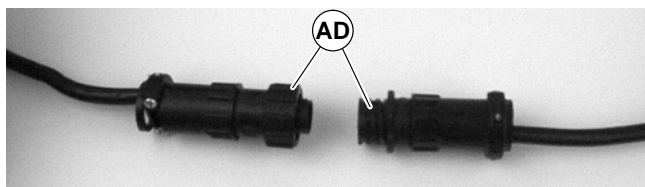

Figure 18
3. For DC variable speed motor, unplug motor cord at disconnect (AD of Figure 18).